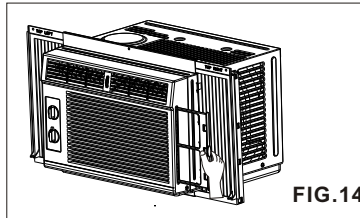

FIG.14
1. Put your hands on the handle on the right hand side of the front grille then pull the air filter out, as shown in FIG.14.